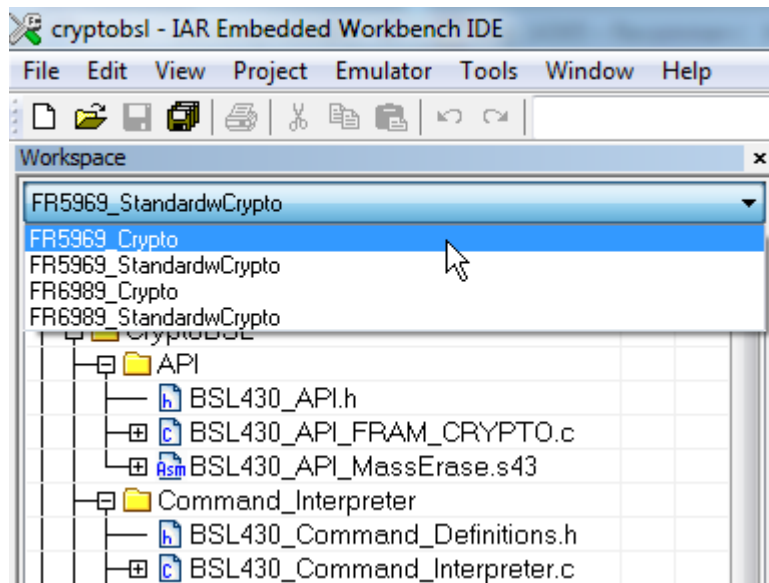

Figure 13. Selecting Configuration in IAR
- (b) Select FR6989_xxxxx when using a FR69xx device (see Figure 13).